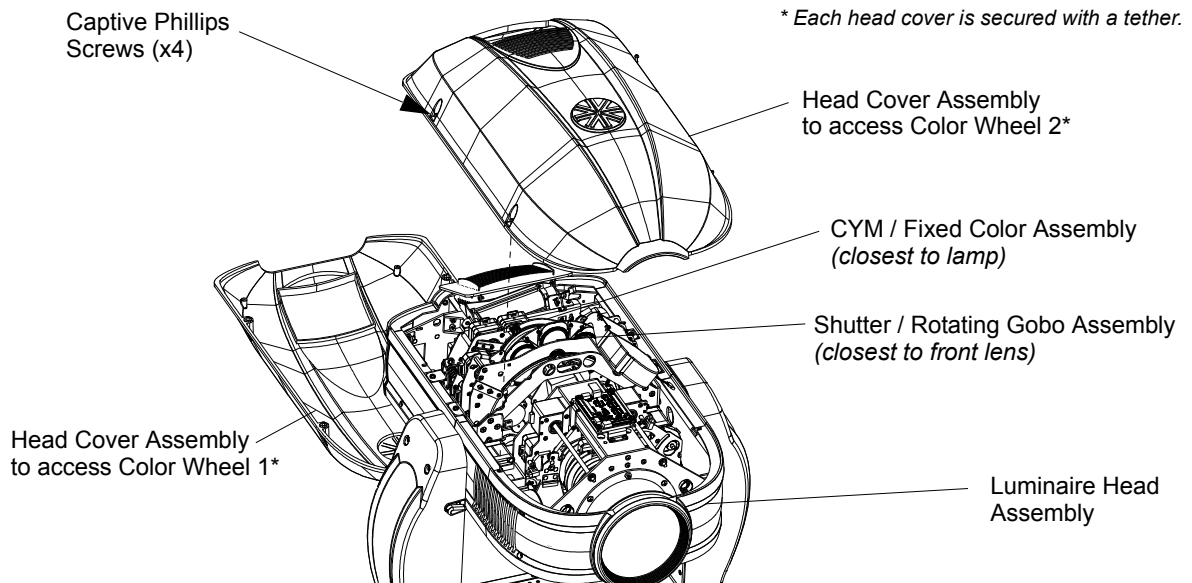

Figure A-4: Replacing Fixed Color Filters
- For Fixed Color Wheel 1 (closest to the rear of luminaire), remove head cover assembly as indicated in Figure A-4 by loosening four captive screws and lifting cover away from luminaire head. Note, head cover is attached by a safety tether.
- For Fixed Color Wheel 2 (closest to the front of luminaire), remove head cover assembly as indicated in Figure A-4 by loosening our captive screws and lifting cover away from luminaire head. Note, head cover is attached by a safety tether.
- For Rotating Gobo Wheel 1 (closest to the rear of luminaire), remove head cover assembly as indicated in Figure A-4 by loosening our captive screws and lifting cover away from luminaire head. Note, head cover is attached by a safety tether.
- For Rotating Gobo Wheel 2 (closest to the front of luminaire), remove head cover assembly as indicated in Figure A-4 by loosening our captive screws and lifting cover away from luminaire head. Note, head cover is attached by a safety tether.